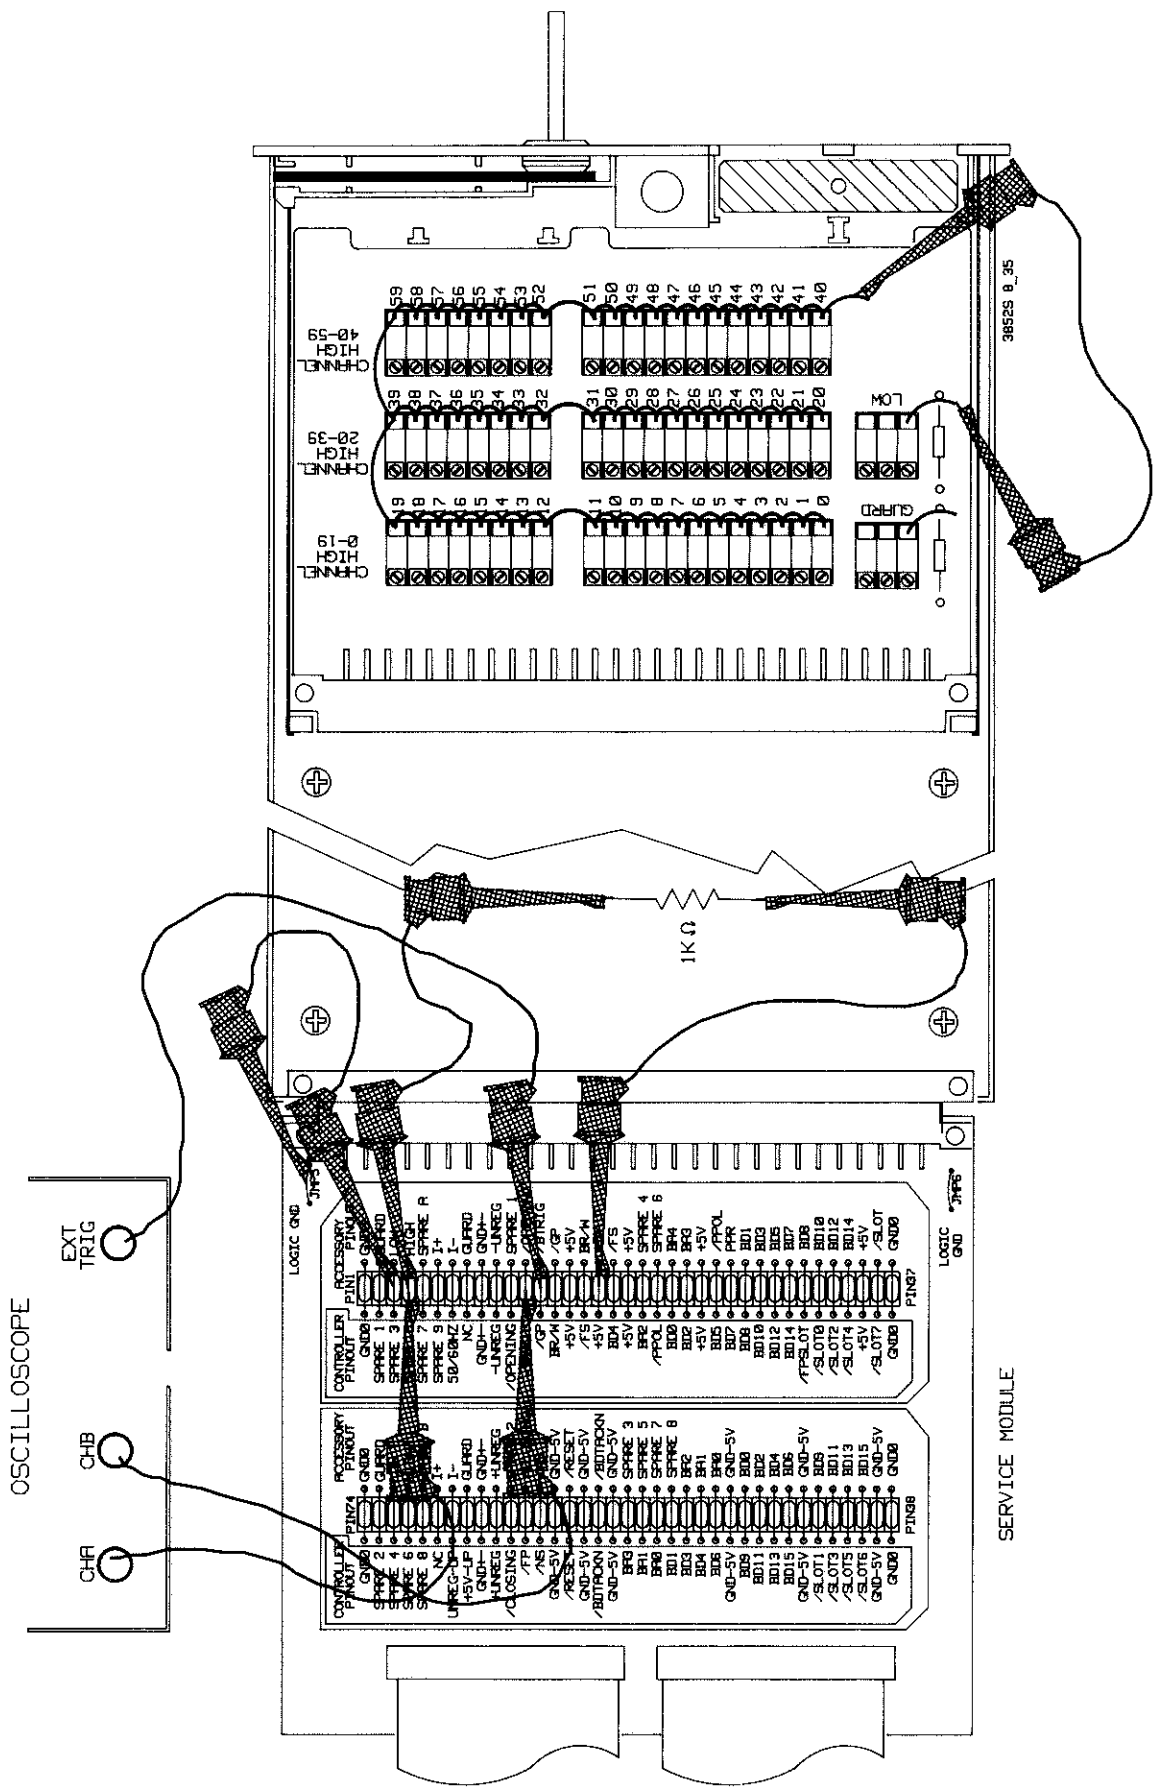

Figure 8-37 HP 44706A Opening Time Set-Up
1. Remove power from the HP 3852A and unplug the relay multiplexer to be tested. Install the Service Module in a convenient slot in the HP 3852A. Note the slot number where the Service Module is installed. Install the relay multiplexer on the service module. Install the test fixture on the relay multiplexer. The Set-Up Procedure is depicted in Figure 8-37.